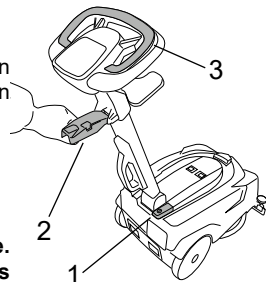

Fig. 16
- Press the main switch (fig. 16, ref. 1).
- Lower the squeegee by operating the lever (fig. 16, ref. 2).
- Depress the brush control lever (fig. 16, ref. 3).
- Raise the squeegee by operating the lever (fig. 16, ref. 2).